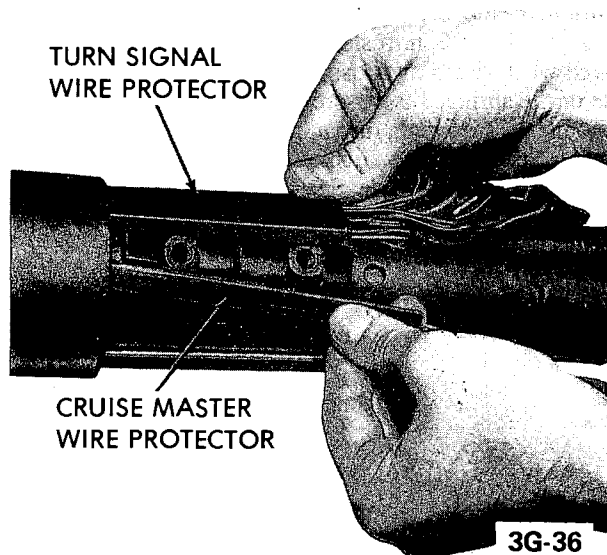

Figure 3G-101 - Adjusting Shift Tube Bearing Manual Transmission
6. (Automatic Transmission) Install the neutral-start switch, making certain the proper screws are used torque to 15 in-lbs. See Figure 3G-87.